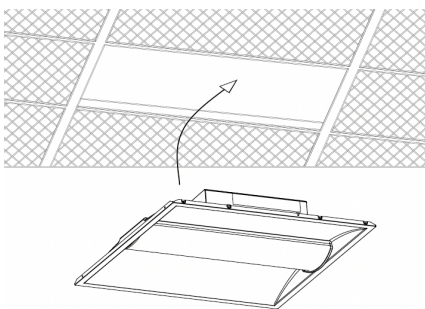

Fig. 5
5. Remove existing light fixture (if retrofit) and replace with new LED troffer (Fig. 5)